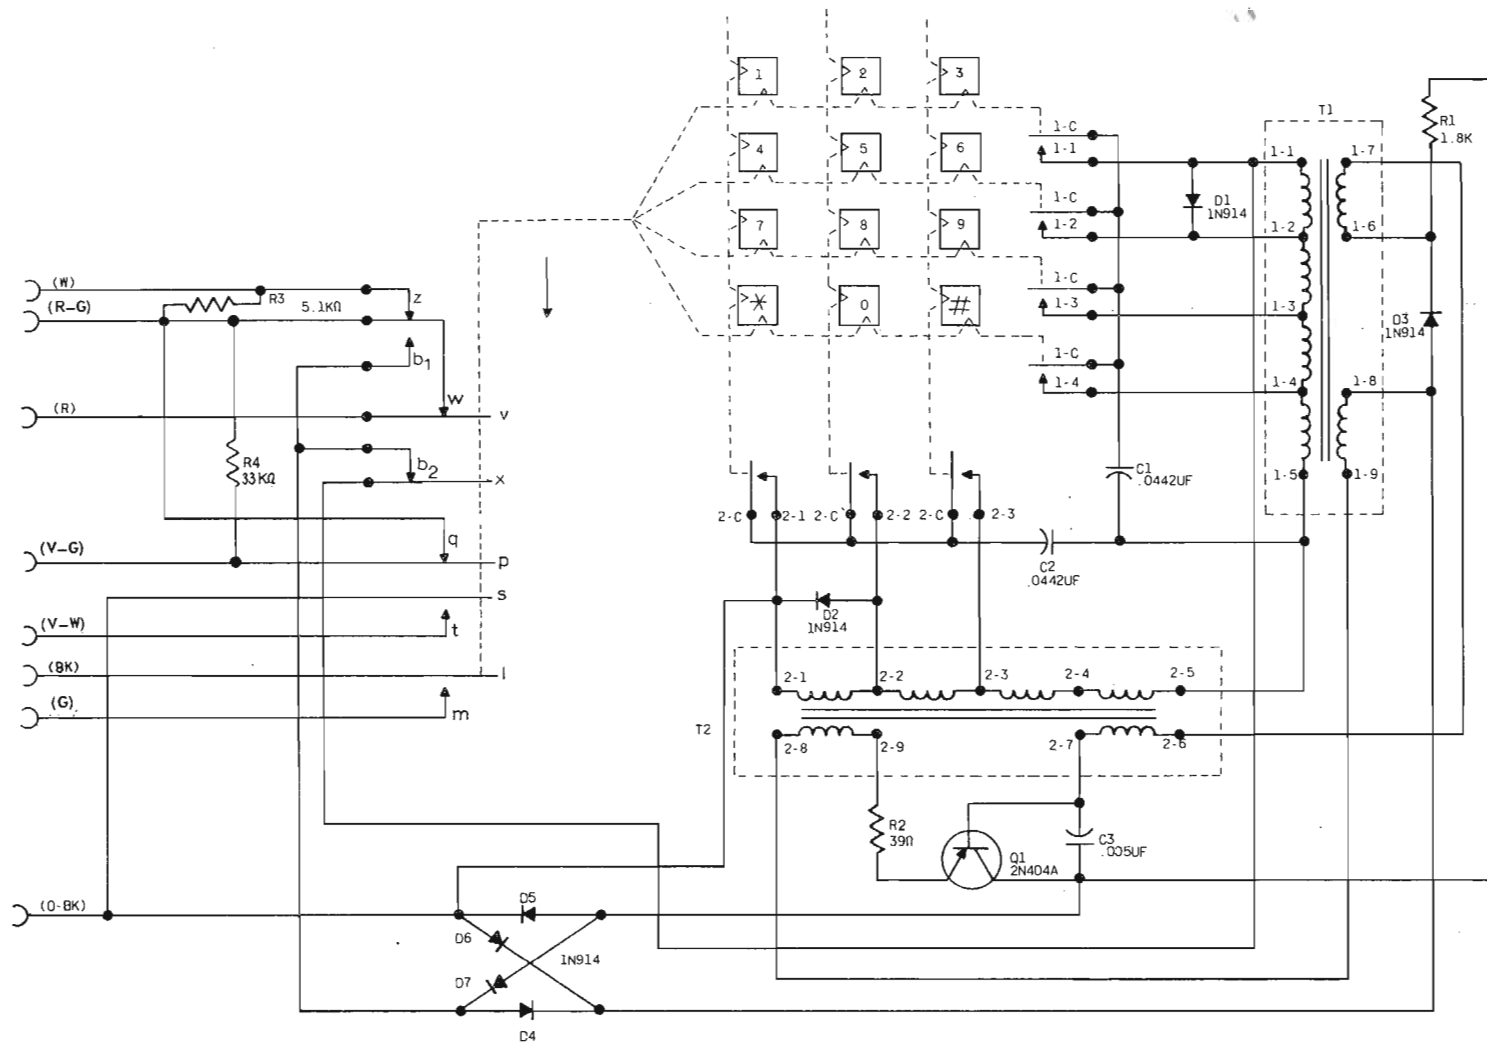

Fig. 18 - NE-35Q3J1 Dial Schematic
- Fig. 18 – NE-35Q3J1 Dial Schematic